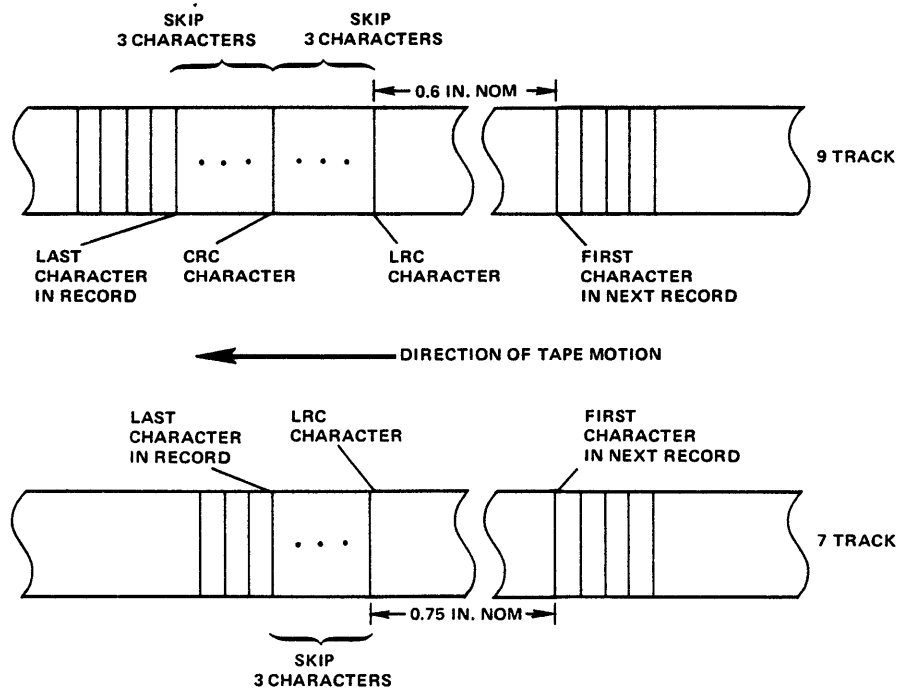
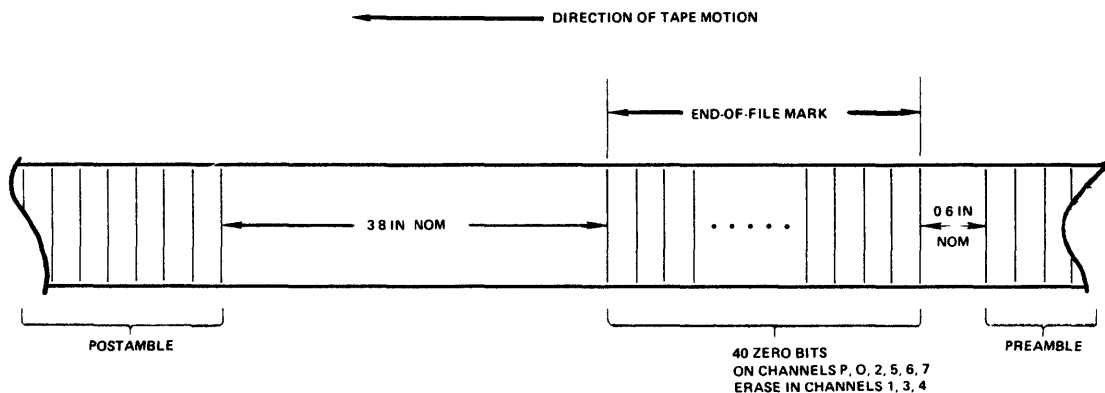

Figure 3-6. End-of-Record Mark Formats for 7 and 9 Track NRZI Tapes
Figure 3-9. End-of-File Mark for PE Tapes
The data is formatted and recorded on the tape in blocks referred to as records. The exact configuration of a record depends on whether the tape is in 7 or 9 track format. On 9-track tape, each record consists of the data, a cyclic redundancy check (CRC) character, and longitudinal redundancy (LRC) character. The CRC character must occur four character times after the final data character, and the LRC character must occur four character times after the CRC. A minimum spacing of 0.5 inches is required between records. The end of a record is shown in figure 3-6.
On 7-track tape, each record consists of data, followed by an LRC character only, as shown in figure 3-6. Minimum spacing between data records is 0.6 inches.
recording are shown in figures 3-6 and 3-8, respectively. The corresponding preamble and postamble for PE recording is described in paragraph 3-12. The end-of-file mark for PE recording is shown in figure 3-9.
- e. After the last character in the record is written, the formatter will gate the proper CRC, LRC, as they are shown in figures 3-6, 3-8 and 3-9.